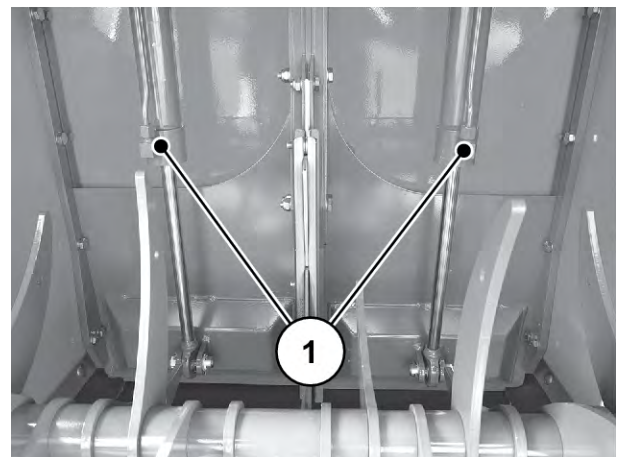

Fig. 101: Pre-metering slide hydraulic cylinder
- The hydraulic cylinders of the pre-metering slides, Fig. 101 Pre-metering slide hydraulic cylinder